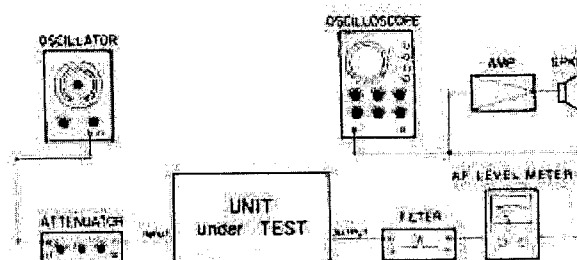

Fig. 9-7-14. Erase Ratio Test Set-Up
1. Connect test equipment to the tape deck as shown in Fig. 9-7-14. The filter to be connected should be a 1 kHz bandpass filter.